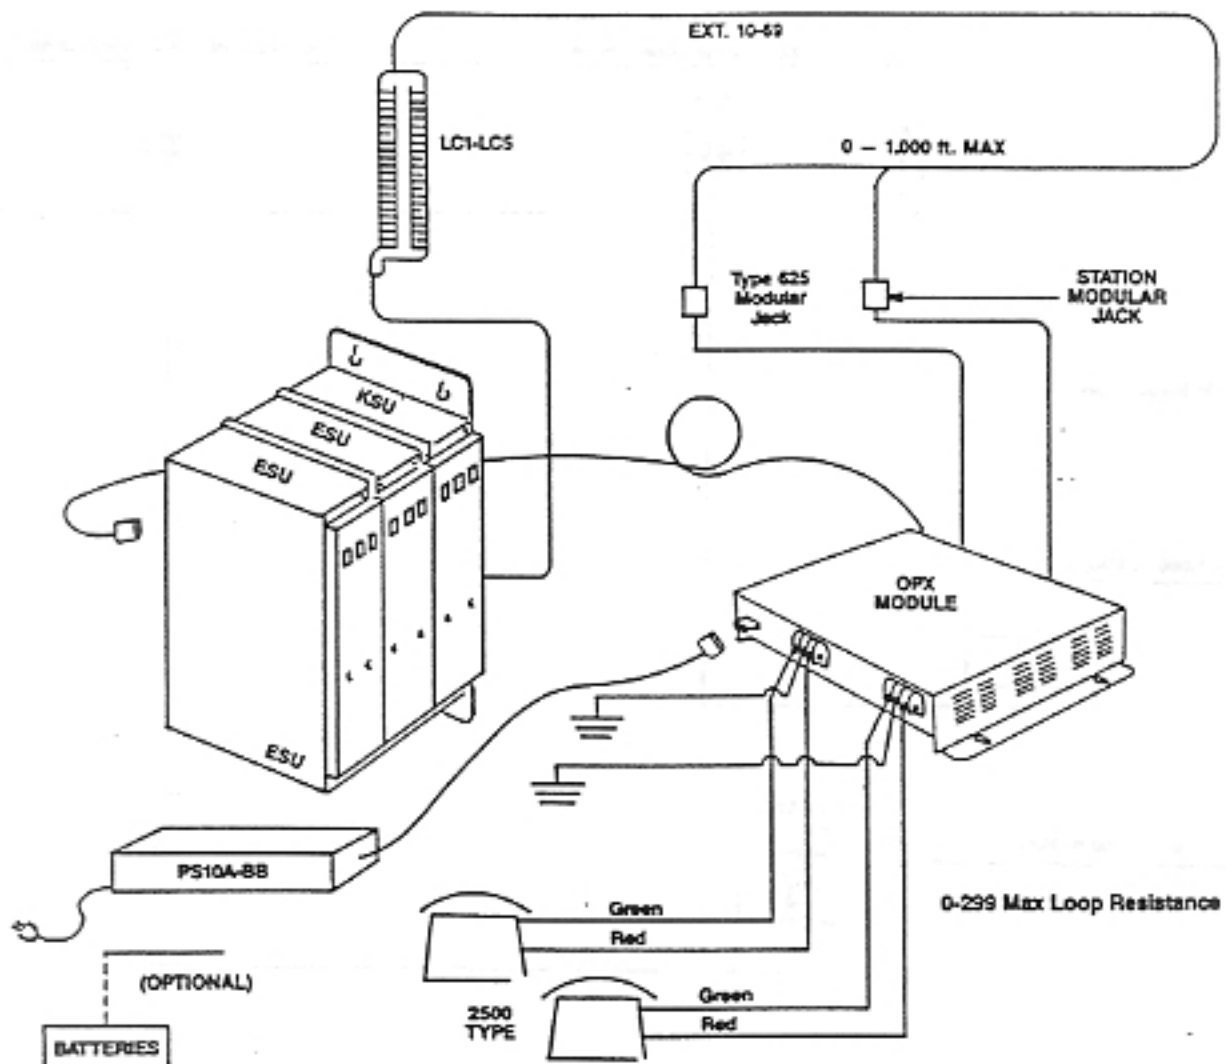
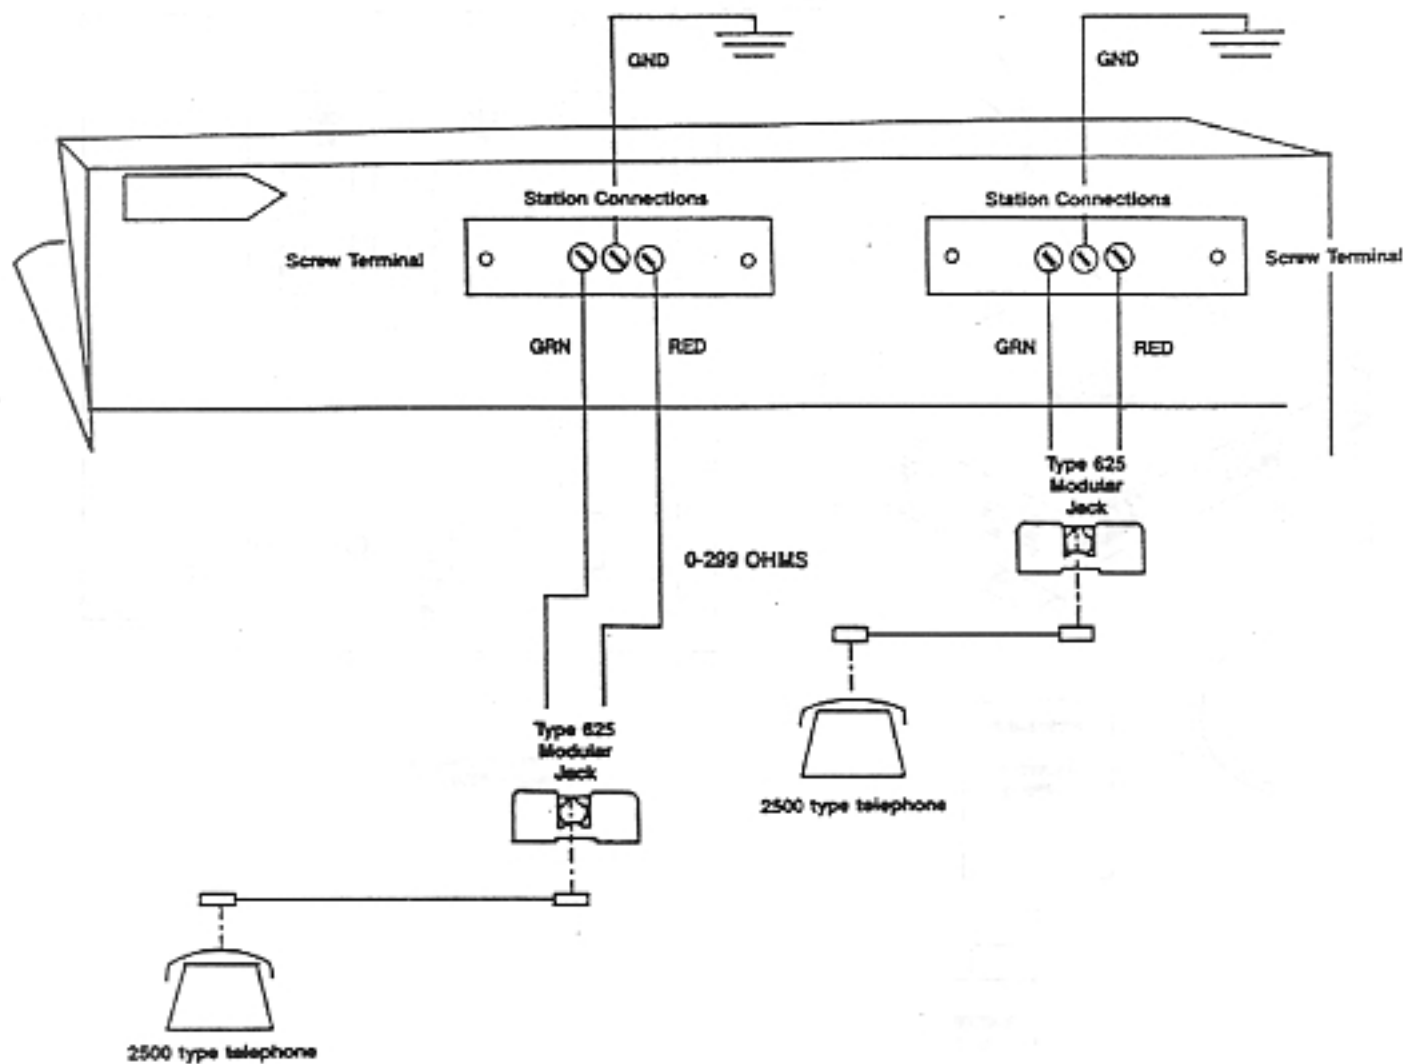

Figure 6-3 OPX Configuration
Figure 6-5 Telephone Station Wiring
OPX cabling interfaces (two wires per station) are provided in the form of screwdown terminals (refer to Figure 6-5) whereby an additional ground terminal for each station provides for added protection against power surges and lightning.
2. Connect the cabling as shown in Figure 6-3. Once the cabling is completed, connect the 2500 type (or equivalent) telephone to the 625A blocks as shown in Figure 6-5.
PS10A BB (if used with KSU/ESU configuration) (refer to Figure 6-3)